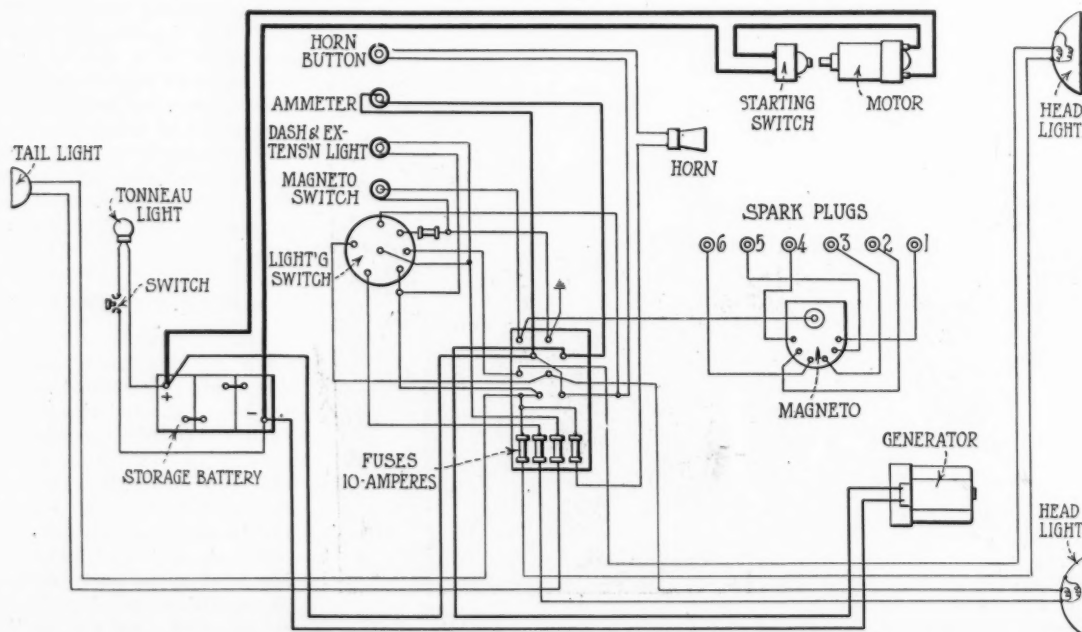

Fig. 677—Wiring diagram of Bijur installation on the Jeffery Chesterfield six
**T**HE Bijur system on the Jeffery Chesterfield six is a three-unit, two-wire—except for the headlights—6 volt installation and a complete wiring diagram is given in Fig. 677. The output of the generator is regulated by a constant-voltage regulator, and the current delivered by the generator when it is connected to the storage battery will depend on the condition of charge of the battery. The lower the charge in the battery, the lower its voltage and, hence, the greater the difference between the voltage of the generator and the voltage of the battery, which results in a larger current being produced than when the battery is nearer full charge and its voltage near equal in value to the voltage of the generator. The automatic voltage regulator and electromagnetic cutout are housed in an aluminum box on top of the generator. A special reversing plug is provided, by which the generator may be disconnected or the connections to the generator reversed.